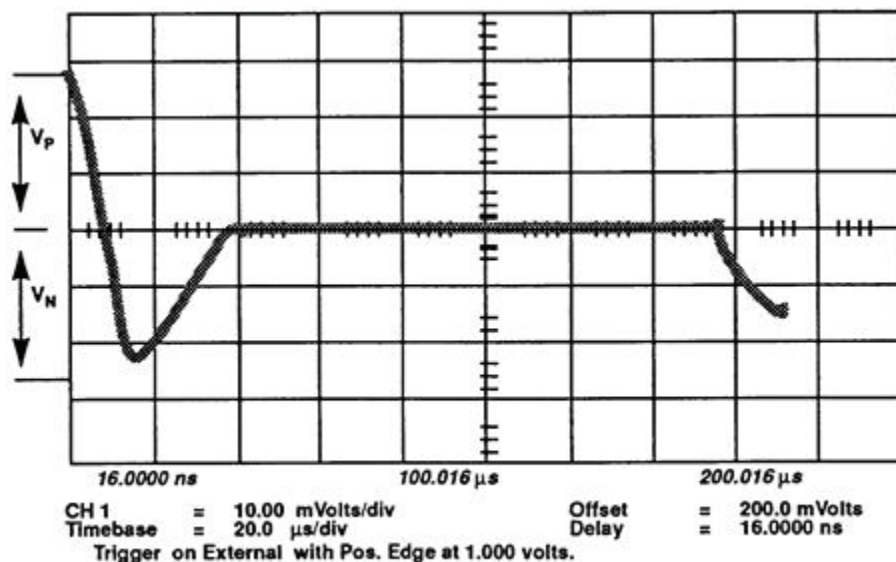

Figure 23. Adjusting RC1 for equidistant pulse peaks.
e. Adjust RC1 (fig. 12) on the vertical assembly A2 until the positive and negative pulse peaks are equidistant from the flat portion of the pulse, $V_P = V_N$. The **Delta V Markers** can help determine when the pulses are equidistant (fig. 23).